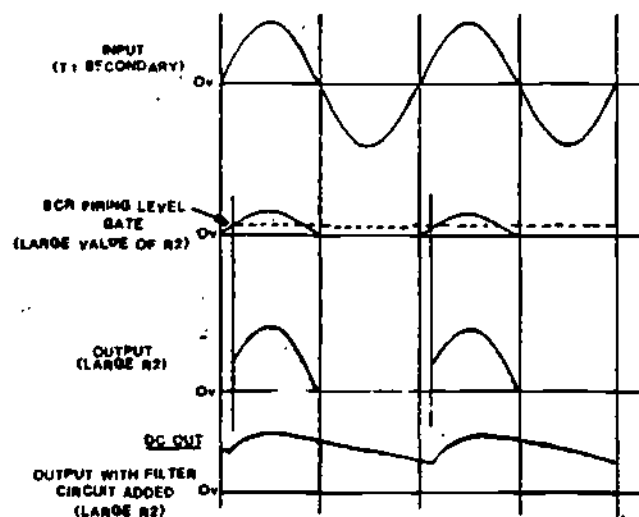

Figure 10
15. The waveform shown in Figures 10 and 11 illustrate the effect of different resistance values of R_2 and the corresponding output of the SCR. Notice that a large value of R_2 results in an earlier firing time and that the output is present only during the forward biased positive input cycle. This is reflected by the waveforms 2 and 3 immediately below the input waveform.